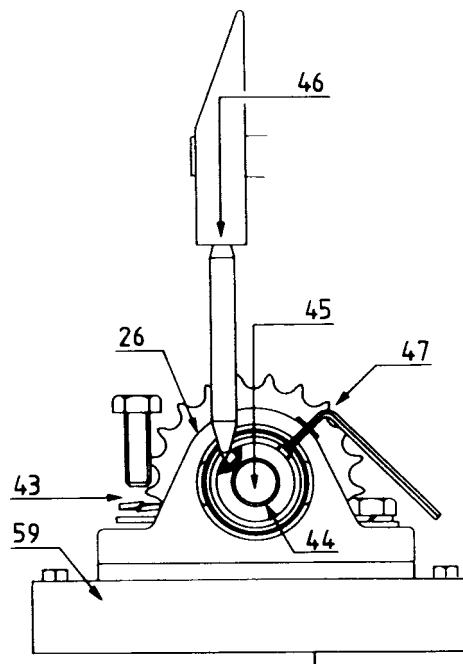

Figure 5
3. Dismantle the reversing plate (**59** - Fig. 5). Loosen the screws (**43** - Fig. 5). See page 9.
10. Refit the reversing plate (**59** - Fig. 5). Tighten the screws (**43** - Fig. 5), see page 9.
3. Unscrew the reversing plate (**59** - Fig. 5), see page 9.
11. Place the drive chain on the sprocket (**26** - Fig. 5).